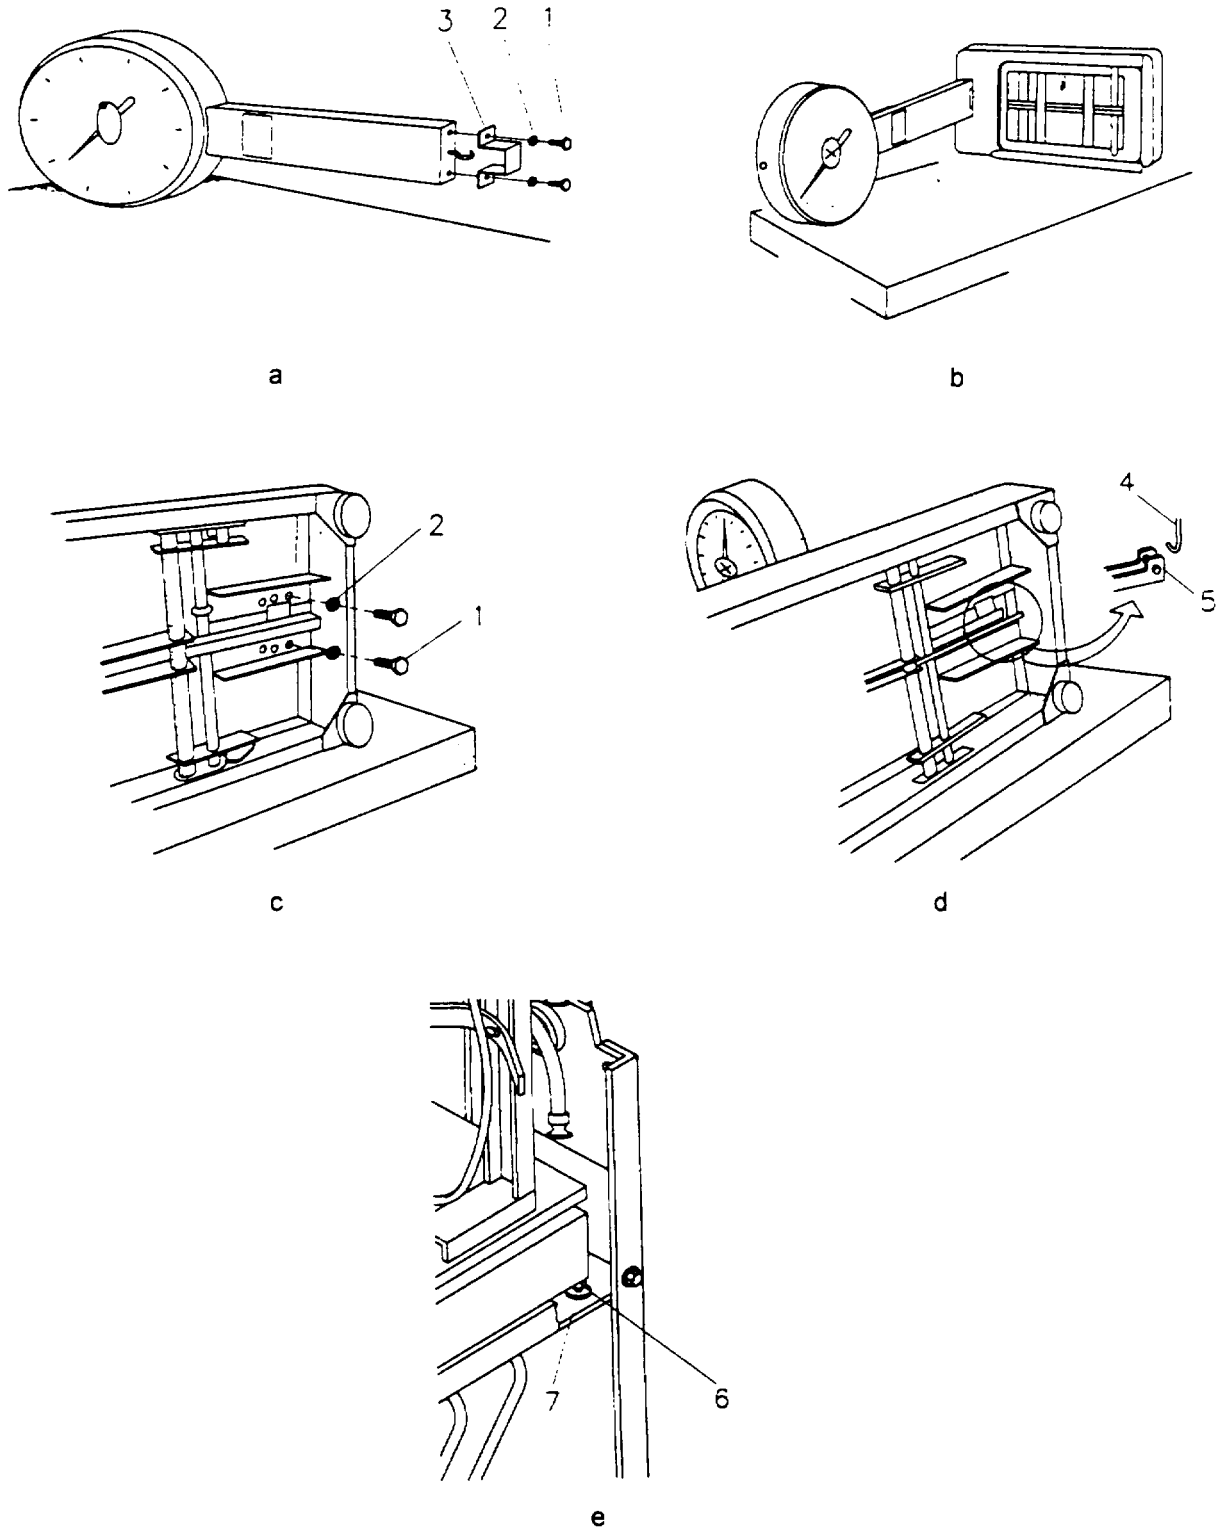

Figure 4-4. Scale Installation
### 4-12.1 Assembly. (Refer to Figure 4-4)
- a. As shown in Figure 4-4.a, remove two screws (1), washers (2) and shipping bracket (3) at the low end of the column assembly. Discard the bracket but retain the two fastening bolts
- d. Turn the base assembly upside down and loosen the locking nut (6) on each of the four adjustable feet.
- e. As shown in Figure 4-4,b place the dial head mechanism and base assembly on their sides. Be sure that the dial chart is facing the lever mechanism.
- g. As shown in Figure 4-4,c insert two washers (2) and screws (1) (from para a) through the bottom of the base assembly and into the column assembly. Tighten screws as much as possible.
- h. Using a set of pliers, grasp the end of the steelyard assembly (4) but use caution not to scratch or damage the 'V' bearing hook. Hook the 'V' bearing hook under the tooled steel pivot (5) as shown in Figure 4-4.d